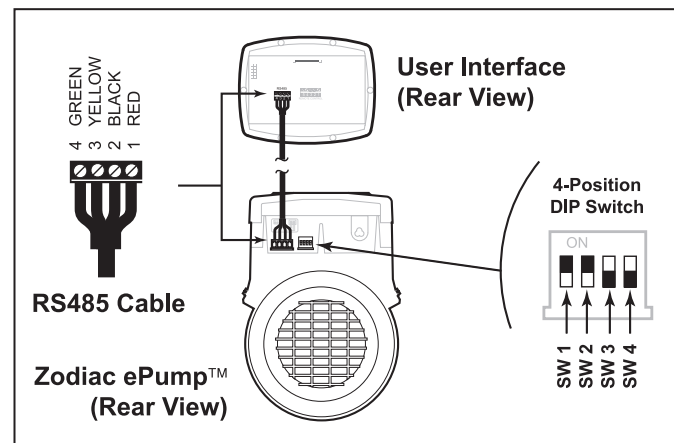

Figure 3. Wiring the User Interface to the Zodiac ePump™ Variable Speed Pump
- Attach the four (4) wires in the RS-485 cable to the RS-485 connector. Make sure the colors match the positions on the User Interface. See Figure 3.
For the ePump™, the 4-position dip switch is located at the rear of the pump, as shown in Figure 3.